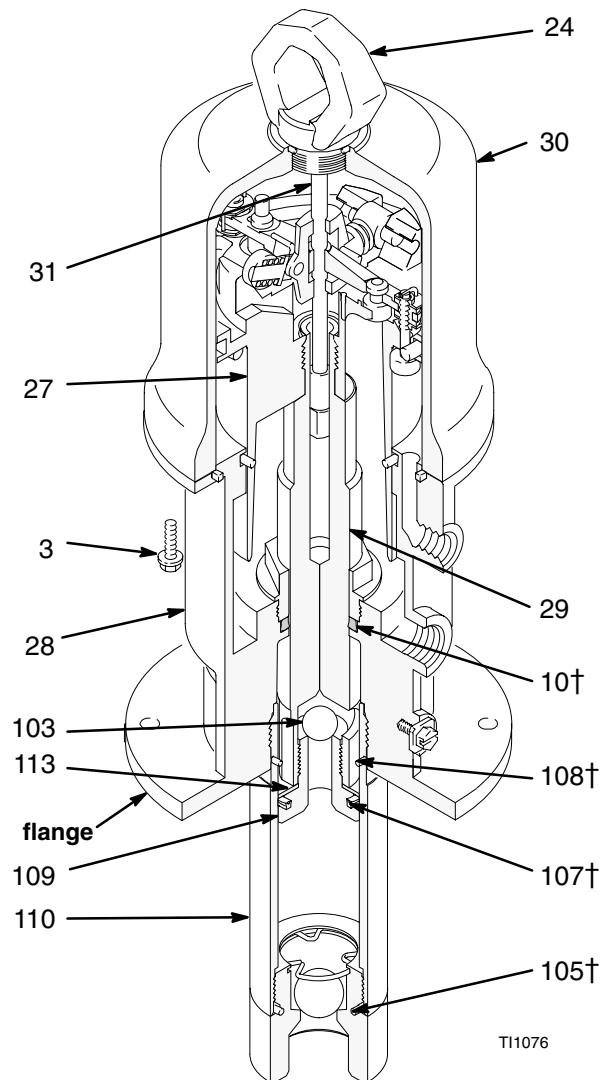

Fig. 3
3. Disconnect the hoses, remove the pump from its mounting, and clamp the air motor base (28) in a vise horizontally by closing the vice jaws on the flange.
4. Use a strap wrench on the displacement pump cylinder (110) to screw it out of the air motor base (28). See Fig. 3.
5. Remove the piston/valve seat (109) from the rod (29) with wrenches or with the vice and a wrench.
6. Remove the piston ball (103), u-cup packing (107†), and piston washer (113).
7. Remove the air motor base from the vice, and place the piston rod (29) flats in the vice with the air motor up.
8. Loosen the lift ring (24). Pull up the lift ring, grip the trip rod (31) with the padded pliers, and screw the lift ring off of the rod.
- Install the u-cup packing (107†) with the lips up, and place the piston washer (113) on the piston/valve seat (109). Make sure the lips of the u-cup packing face up. See Fig. 3.
- Place the piston ball (103) in the piston rod (29).
- Clean the threads of the piston/valve seat, Apply Loctite® to the threads, (109), and thread the assembly from Step 16 onto the piston rod (29).
- Clamp the flats of the piston/valve seat (109) in a vice, and torque the piston rod (29) to the piston valve seat to 40 to 60 ft-lb (54 to 81 N.m).
- Clamp the air motor base (28) in a vise horizontally by closing the vice jaws on the flange
- Use a strap wrench to screw the displacement pump cylinder (110) to the air motor base (28), and torque to 95 to 105 ft-lb (129 to 142 N.m).
- Grip the trip rod (31) with padded pliers, screw the lift ring (24) onto the trip rod, push the lift ring down, and screw it into the top of the cylinder.